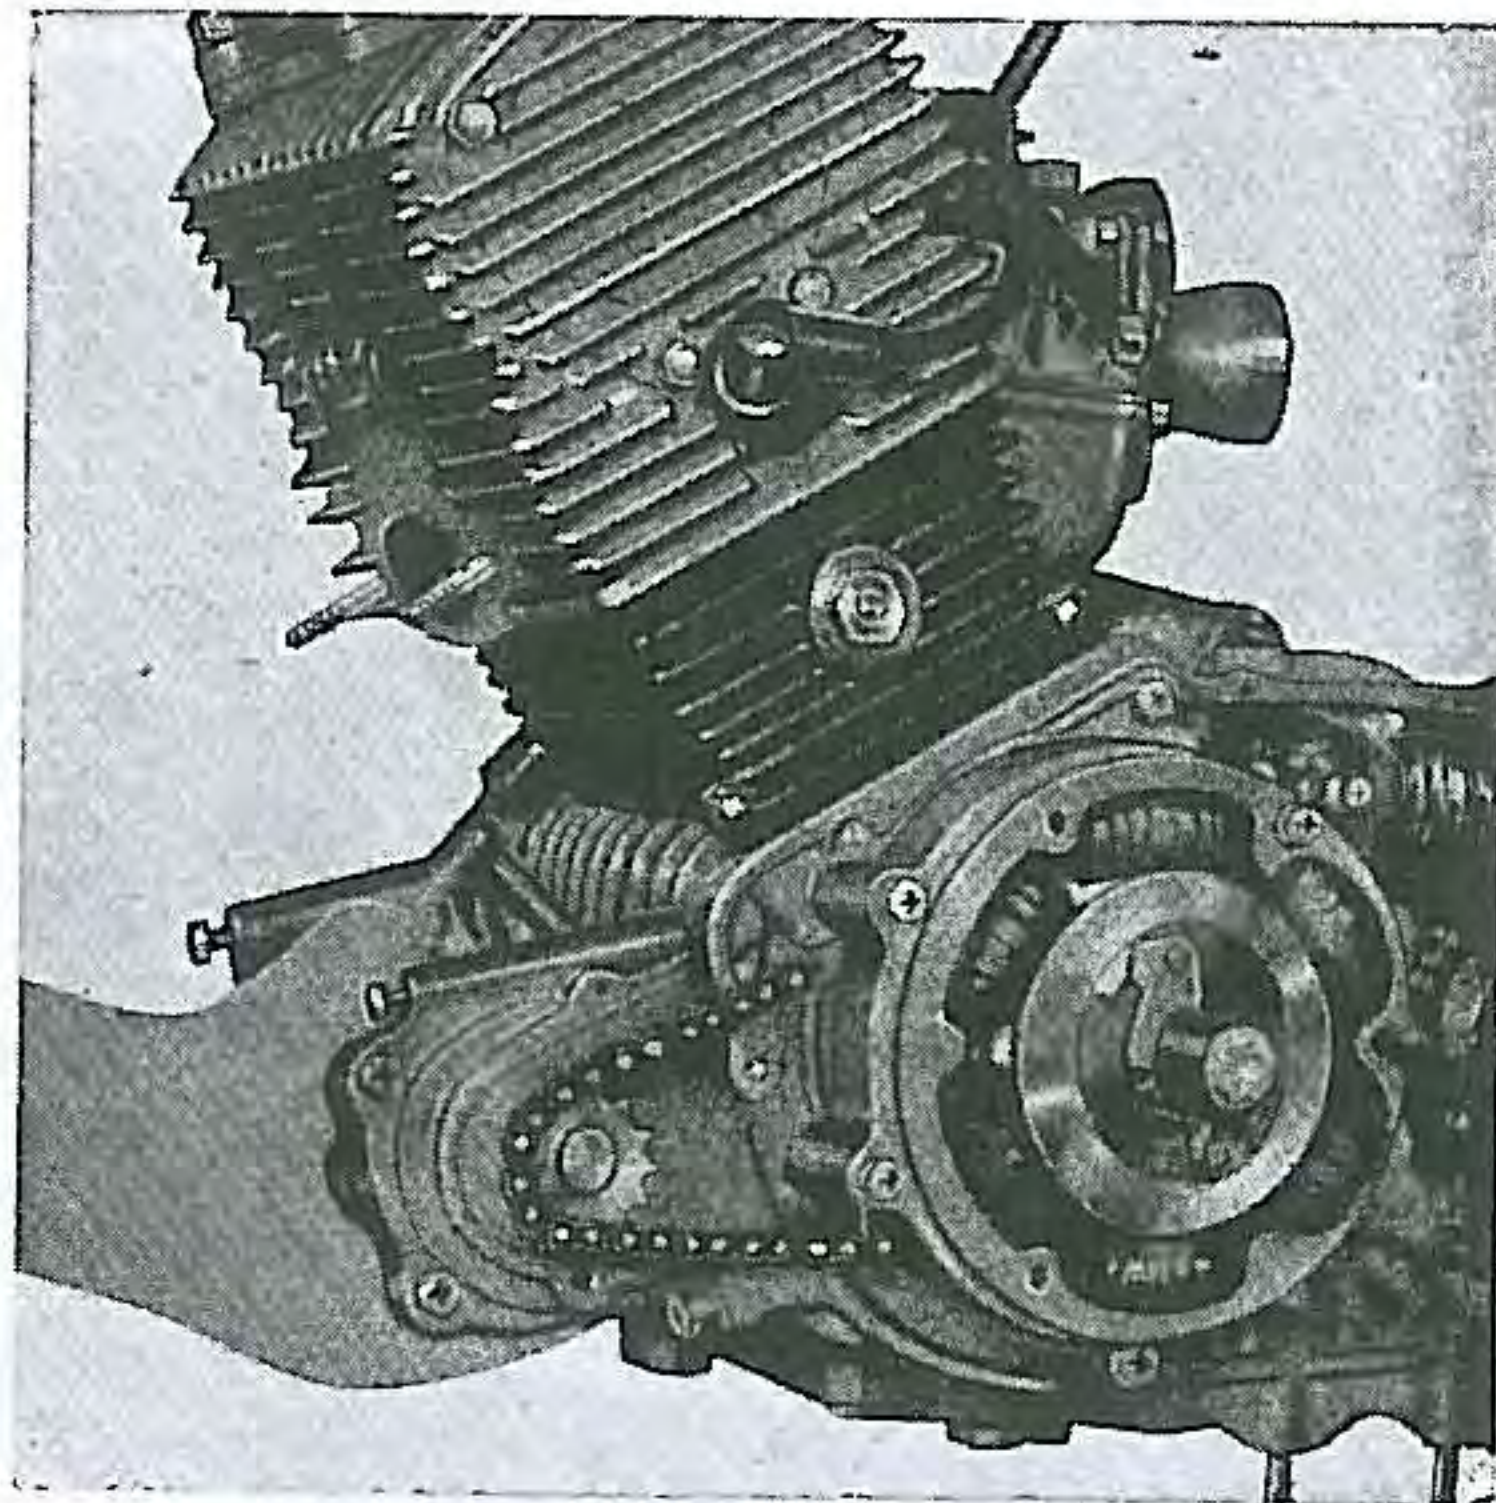
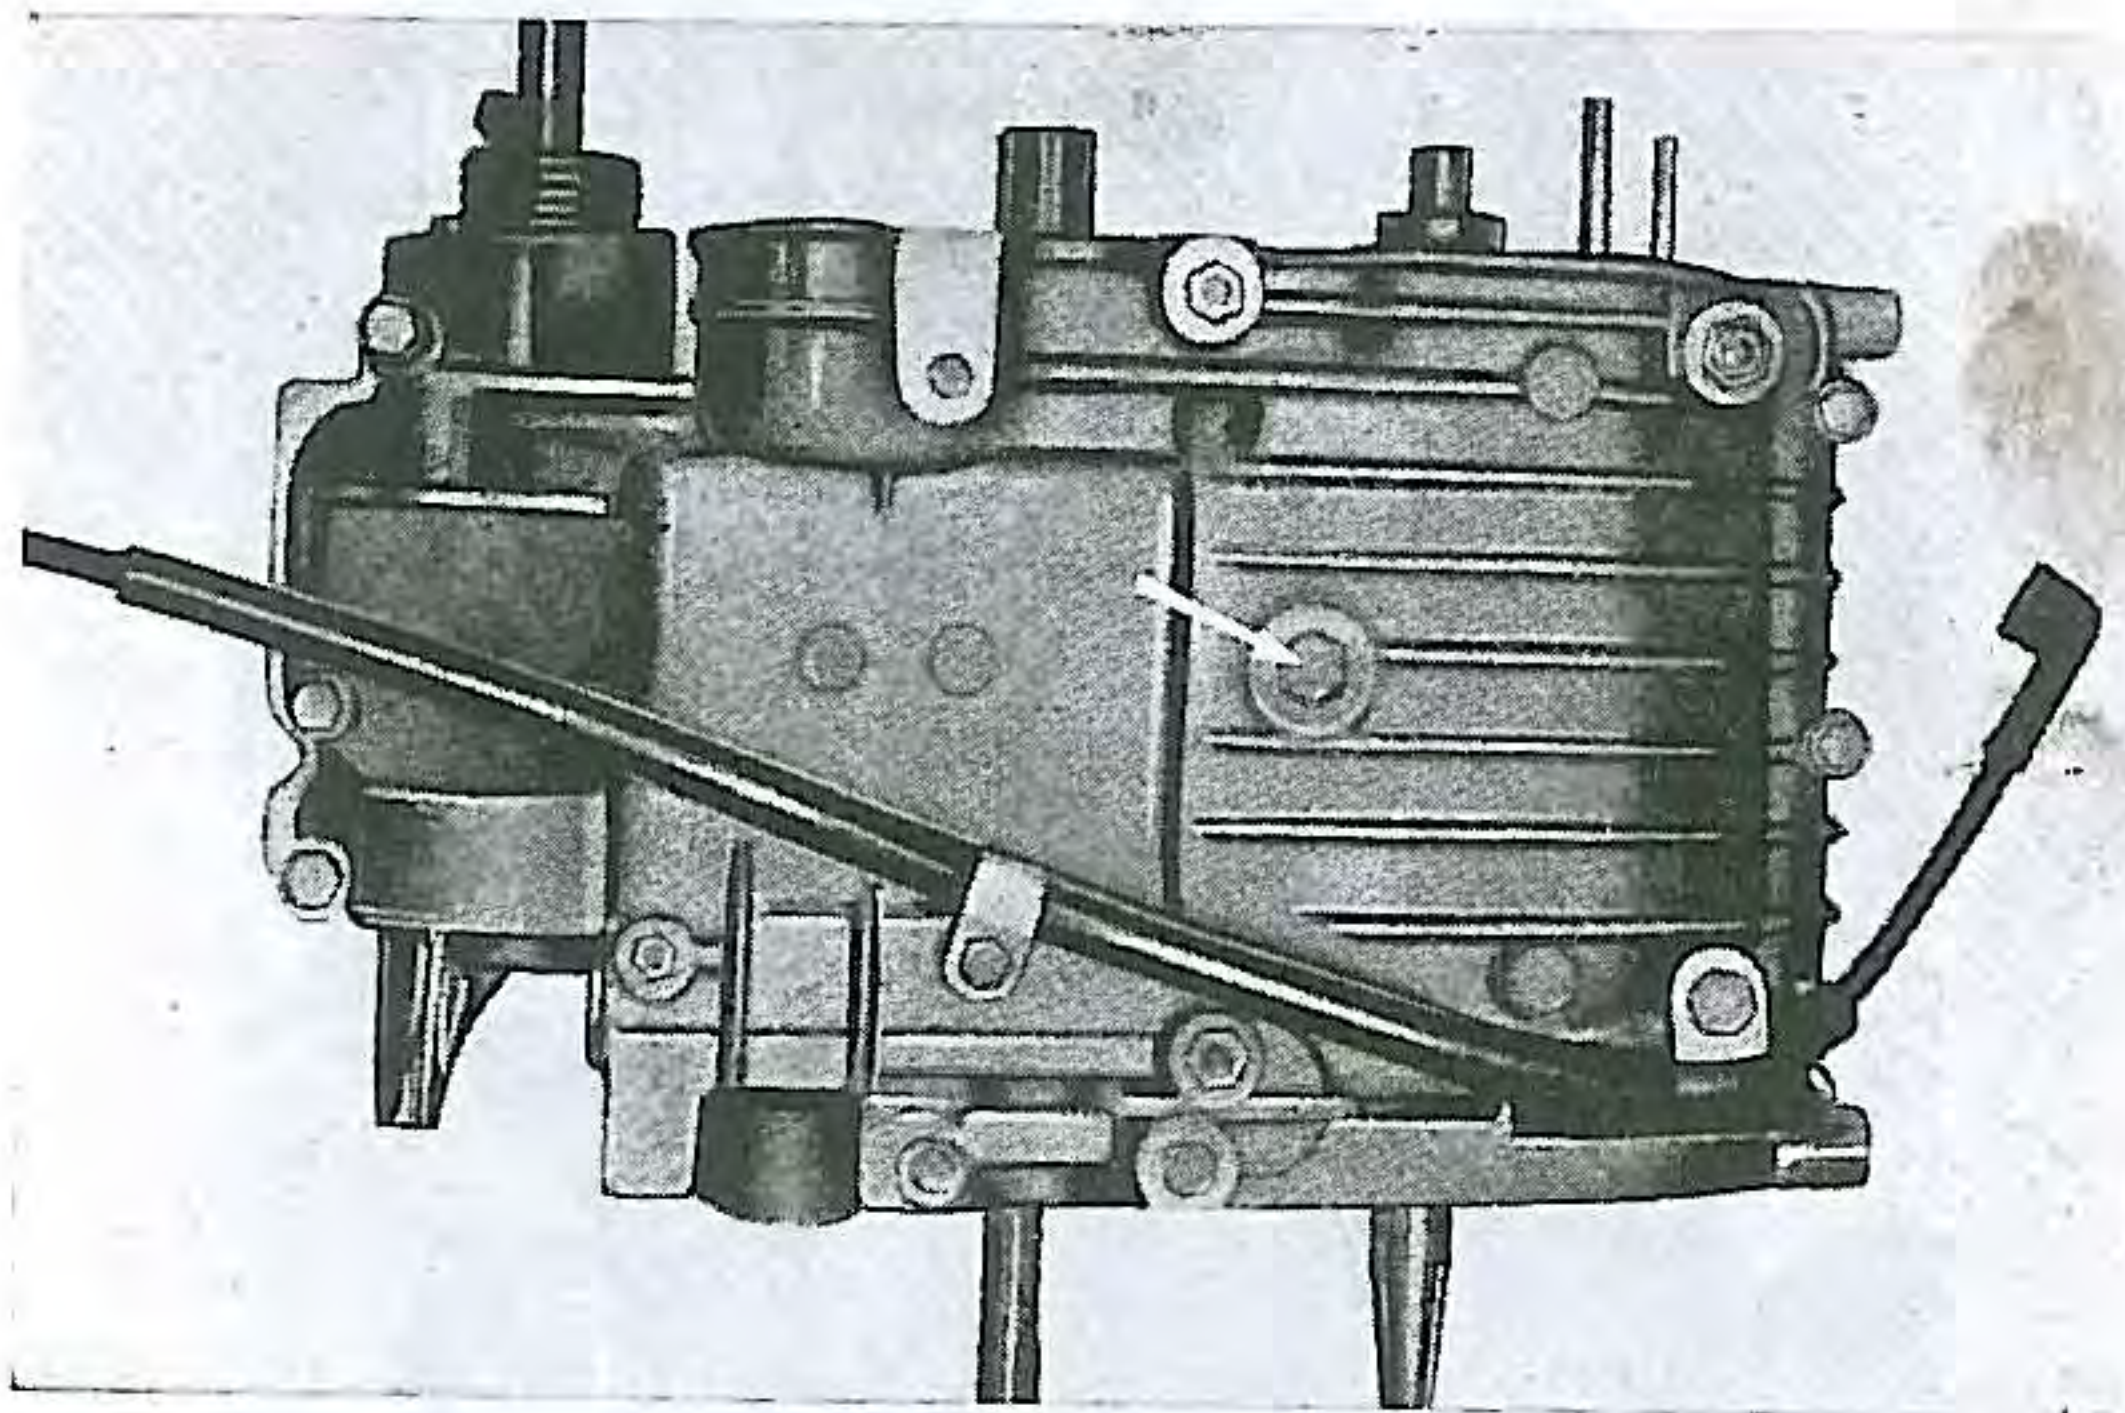

Fig. 25. Removing starter motor
Fig. 26. Position of clamps under crank case
- (4) Remove the 4 starter motor mounting bolts (6 mm) at the front end of the crank case (Fig. 25) and take out the starter motor from the chain by twisting the sprocket end of the motor towards the A. C. dynamo. Previously remove two clamps retaining starter motor cable under the crank case. (Fig. 26)